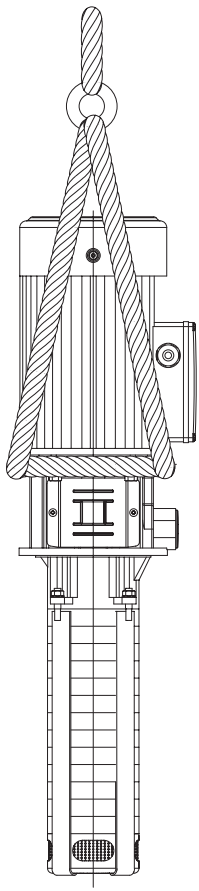

Fig.2
8. Please lift or move the pump by hoist as shown in Fig 2 below.